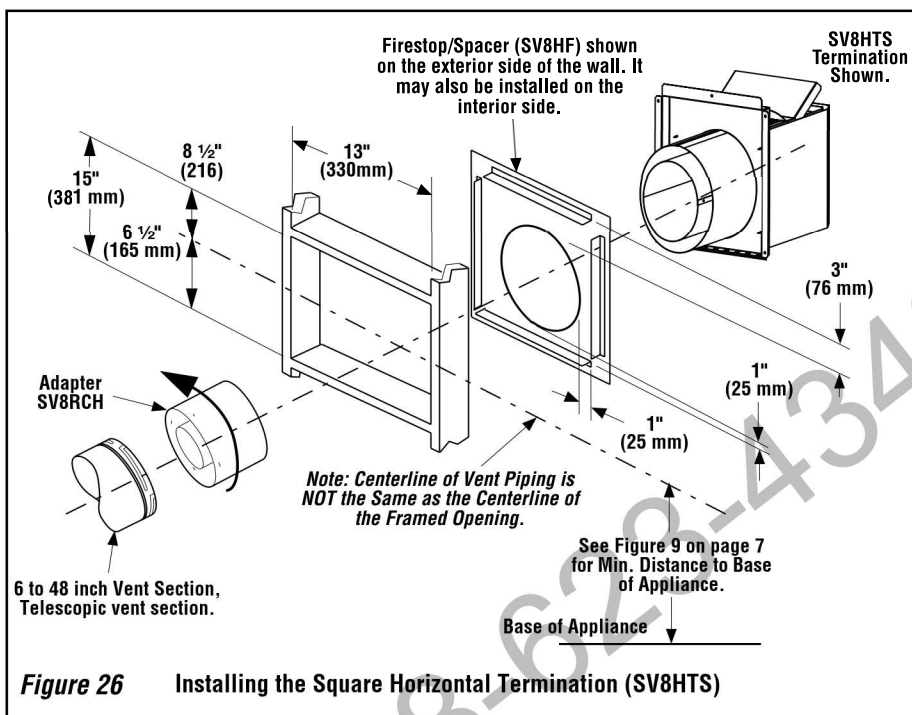

Figure 26 Installing the Square Horizontal Termination (SV8HTS)
K. Attach termination adapter - Attach the adapter (adapter - SV8RCH - provided with the termination) to the vent section or telescoping vent section), elbow or appliance collar as shown in **Figure 26** in the same manner as any SV vent component (refer to **Step E**).
L. Install Firestop/Spacer at exterior wall - When using the **square** termination, install SV8HF Firestop/Spacer over the opening at the exterior side of the framing, long side up, with the 3 inch spacer clearance at the top as shown in **Figure 26**, and nail into place.